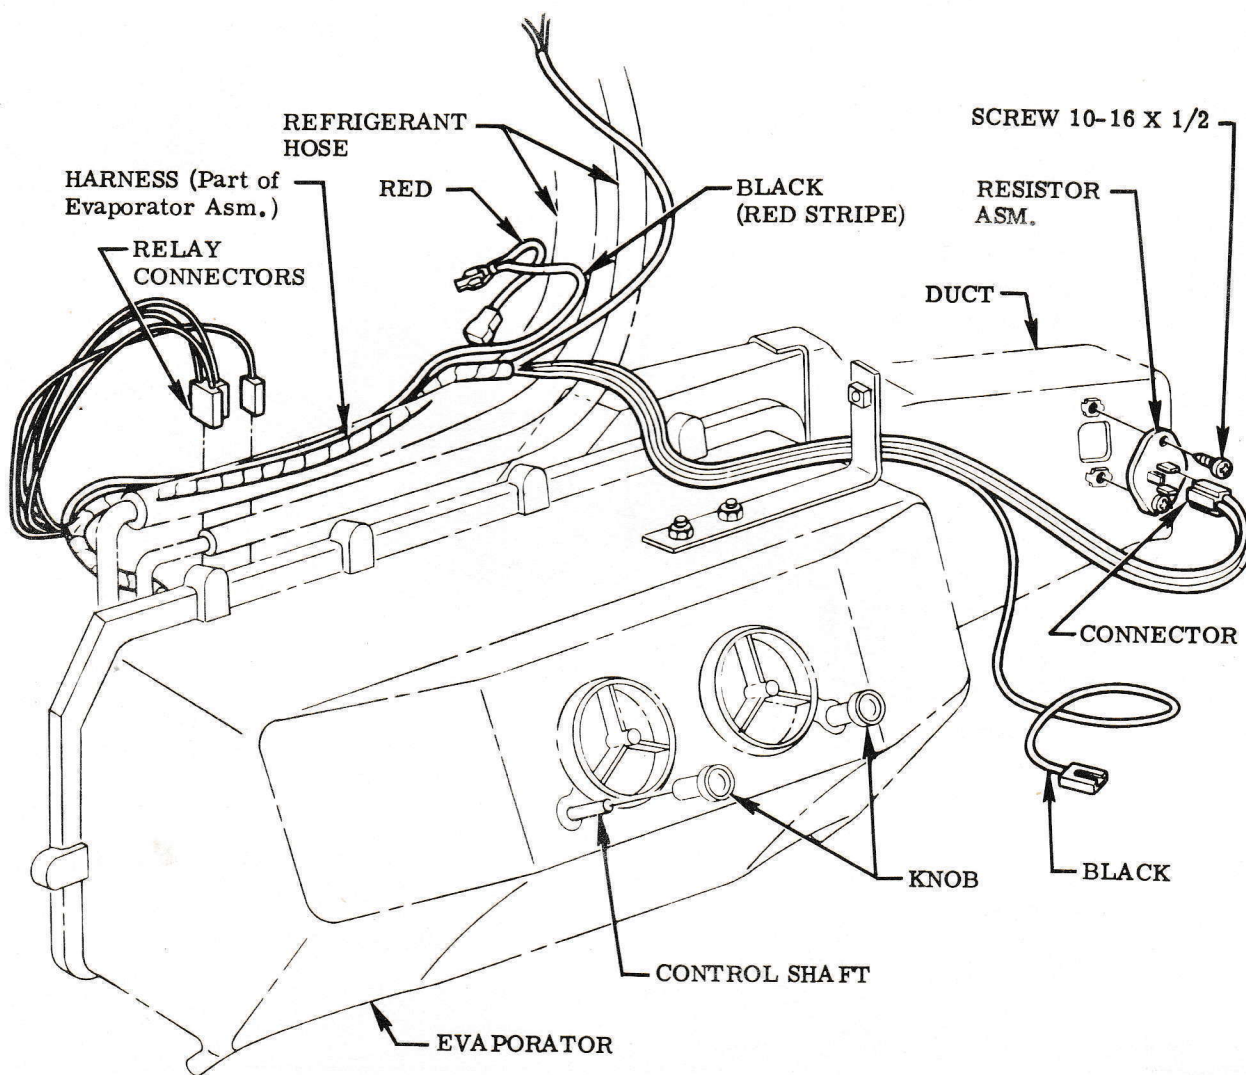

FIG. 1 RELAY, RESISTOR & KNOBS
STEP 7 CUT DRAIN HOSE INTO (2) EQUAL LENGTHS & ASSEMBLE TO EVAPORATOR WITH SPRINGS & CLAMPS. SEE FIG. 1.
STEP 1 ATTACH RESISTOR TO DUCT WITH SCREWS. SEE FIG. 1.
STEP 2 PLUG CONNECTORS OF EVAPORATOR HARNESS TO RELAY TERMINALS. SEE FIG. 1.